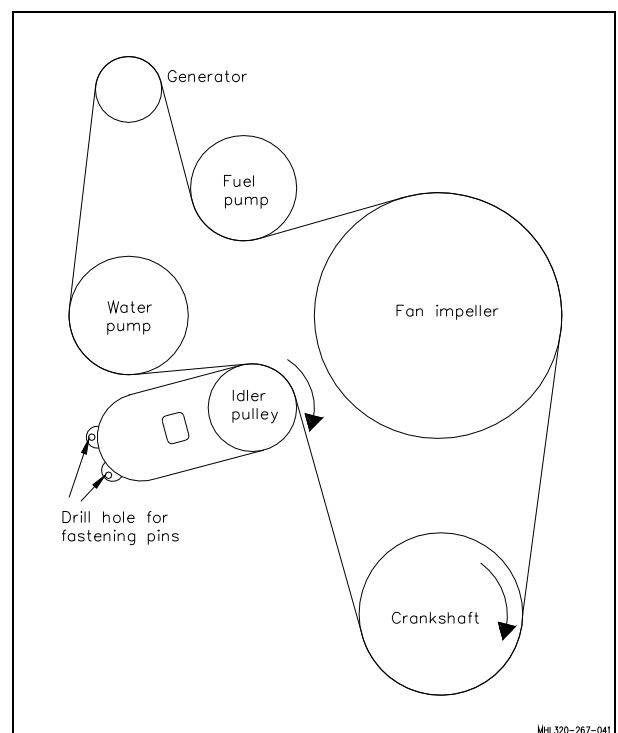

Fig. 91 Routing of the V-ribbed belt
- Place a ½" square spanner into the dent (90/1) of the tensioning pulley and press the tensioning pulley into the direction of arrow until the drill holes are positioned one over the other (see fig. 91). Then secure in place with a suitable fastening pin of Ø 6 mm.
- Fit new V-ribbed belt. For the routing of the V-ribbed belt see fig. 91.